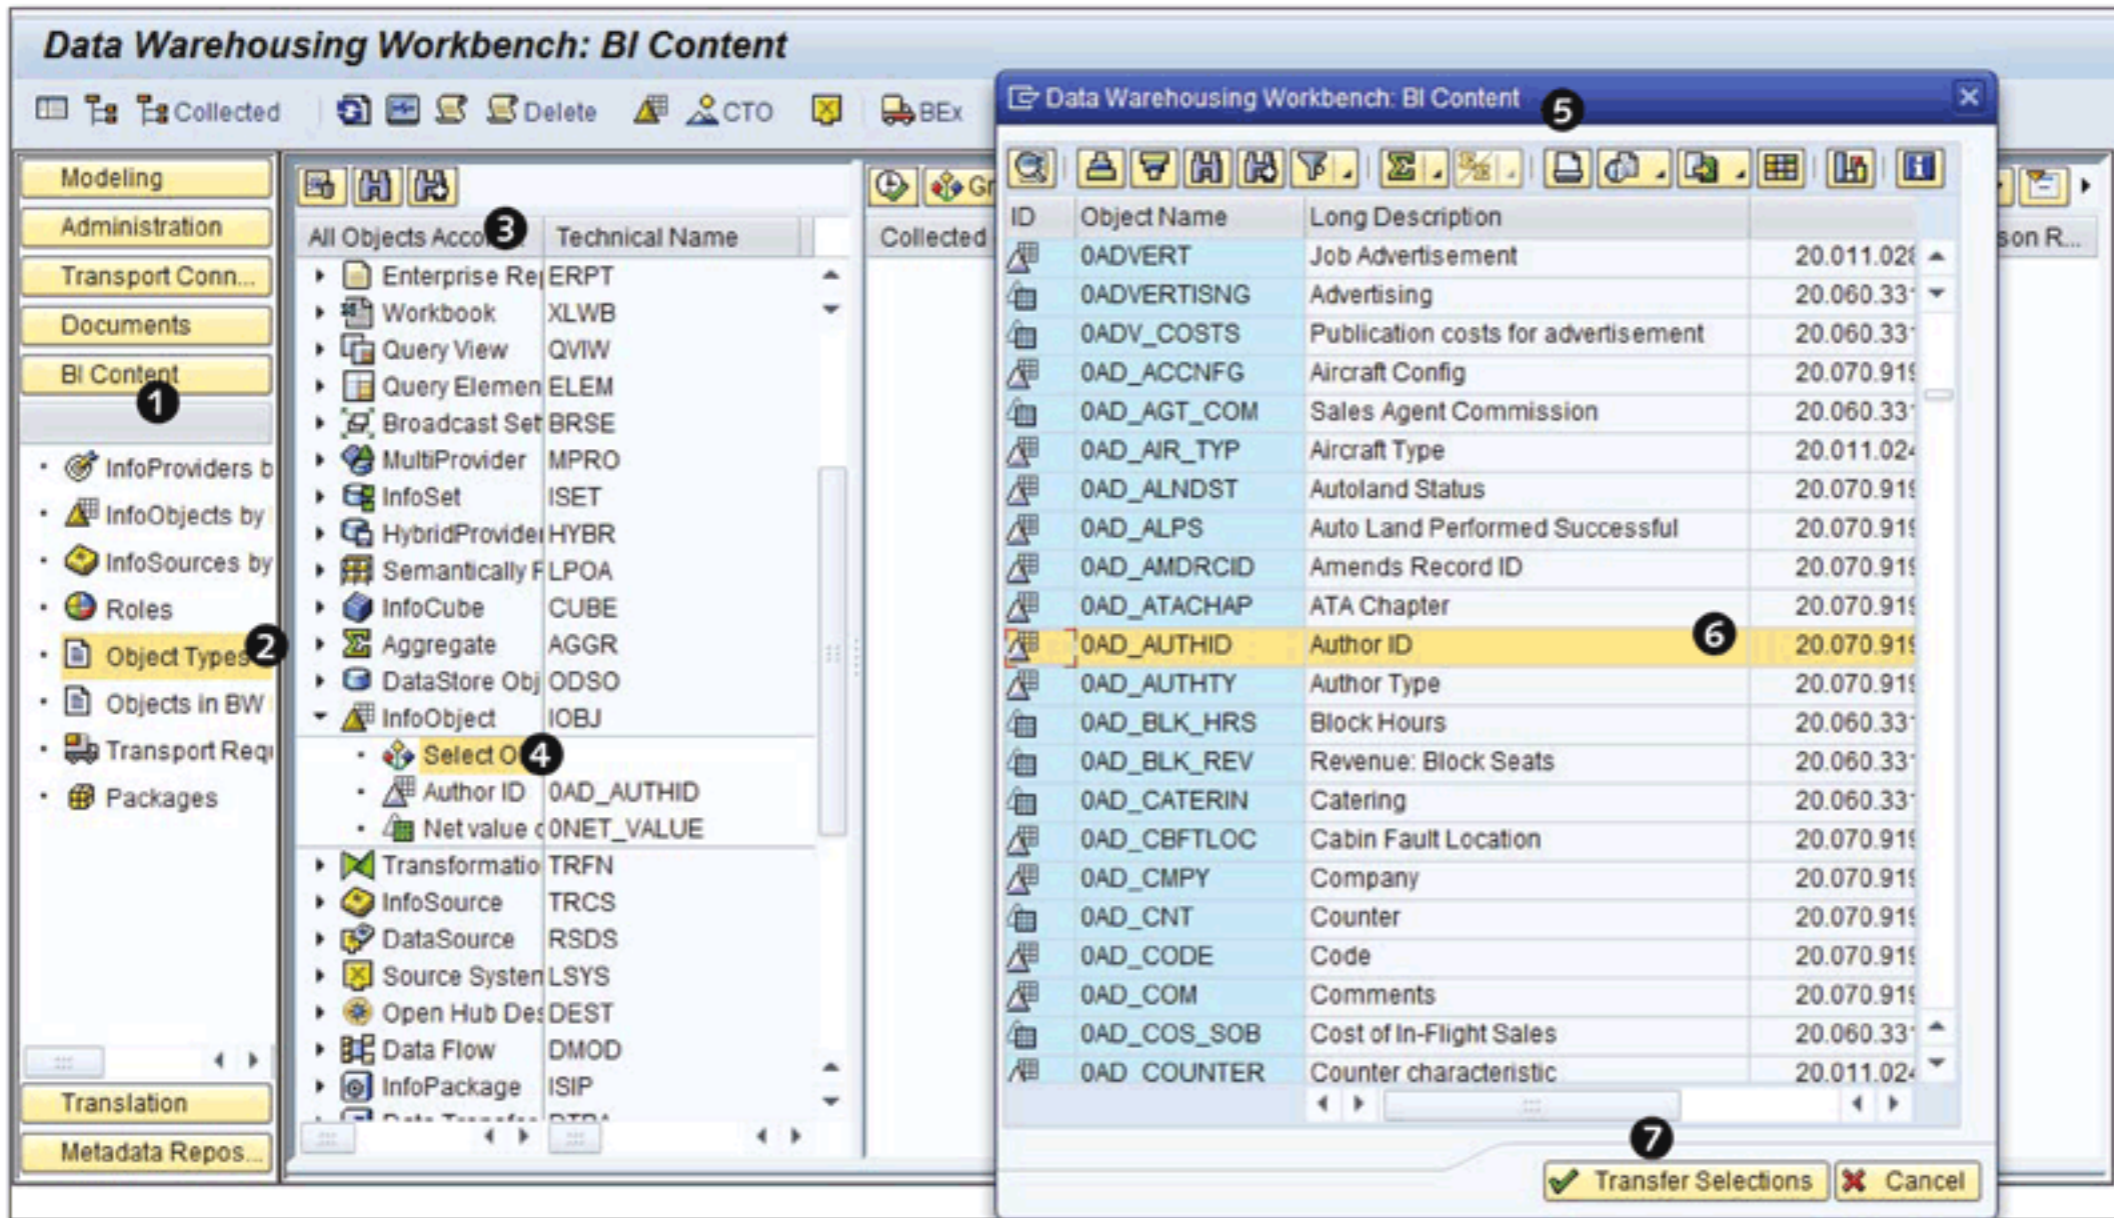

Figure 2.28 Selecting InfoObject for Activation
Now that the options are set, we can select InfoObject OAD_AUTHID. Expand the InfoObject tree, and double-click on SELECT OBJECTS, as shown in ④ of Figure 2.28. This results in a pop-up box, INPUT HELP FOR METADATA, as shown in ⑤. This pop-up box lists all of the InfoObjects available in the system, both active and inactive. Find the InfoObject OAD_AUTHID by using the scroll bar or FIND icon. Select it and click on the TRANSFER SELECTIONS button (⑥ and ⑦).